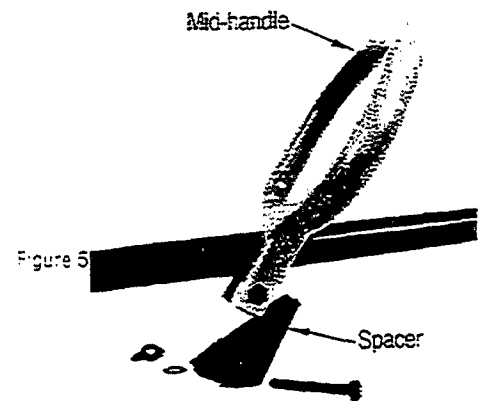

Figure 5
- Snap mid-handle over handle tube, install spacer, bolt, washer and wing nut (Fig. 5), adjust for operator comfort, and tighten wing nut.